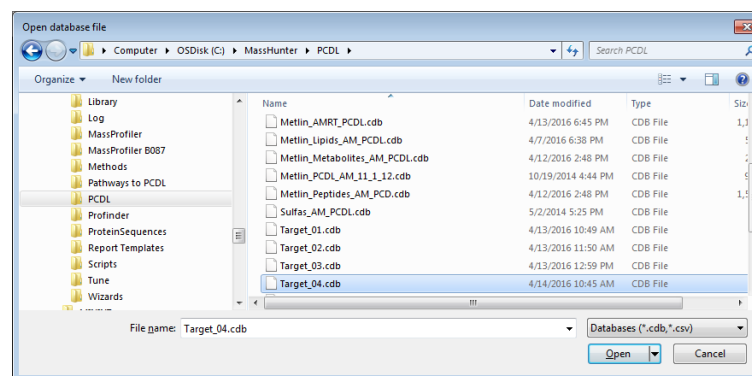

Figure 45 Use the Move Up arrow re-order samples in the Add/Remove Sample Files dialog box
- Navigate to the folder that contains your target metabolite database in the **Open database file** dialog box (Figure 45).